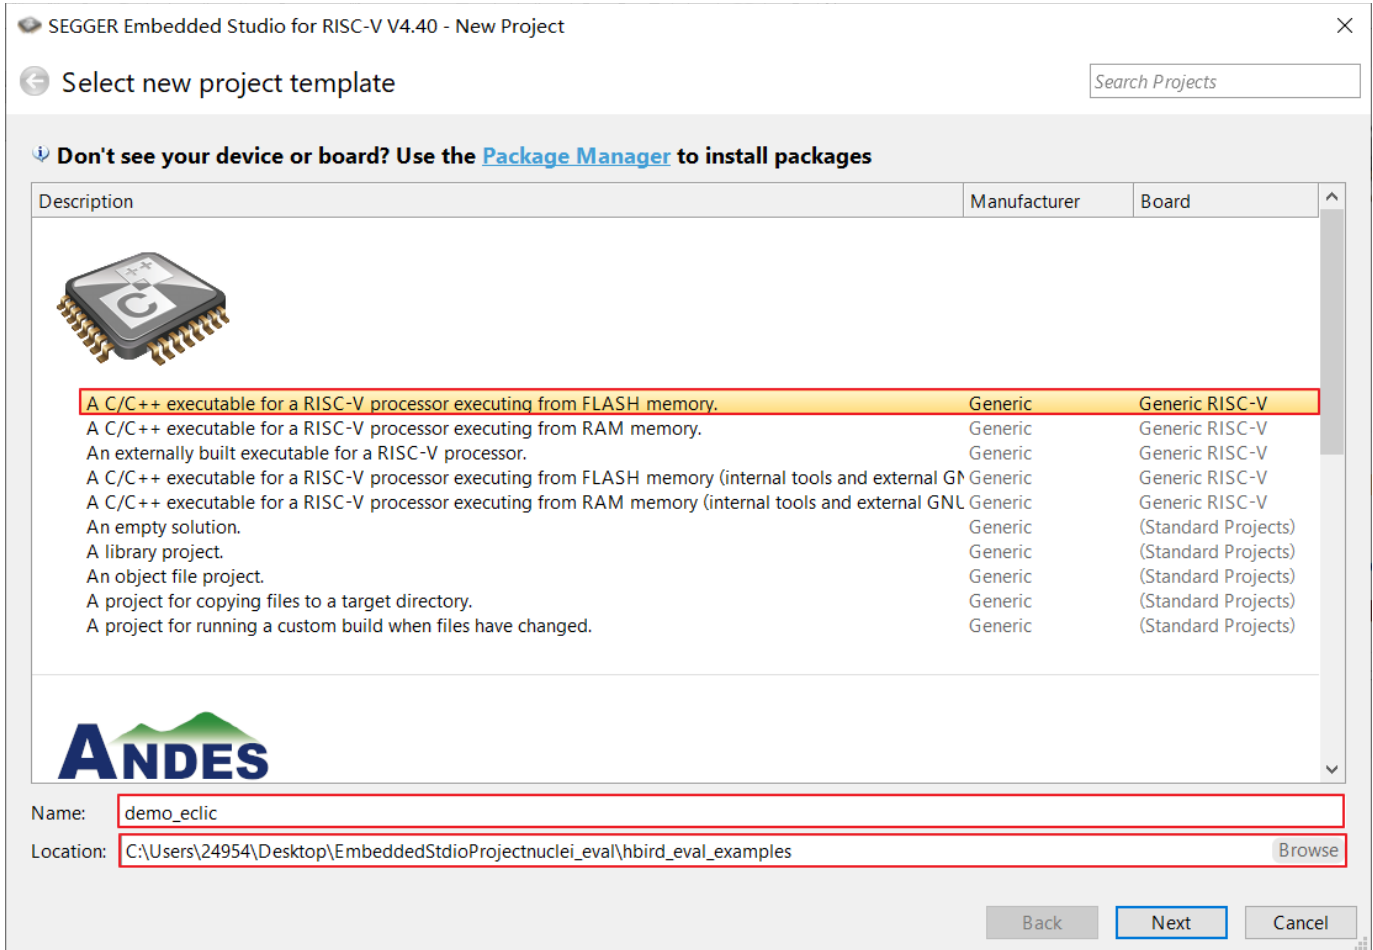

Figure 2-7 Project Name and Location
- Click “New Project” to pop up the window as shown in Figure 2-7, select the first option, enter the project name and select the folder location, then click next.